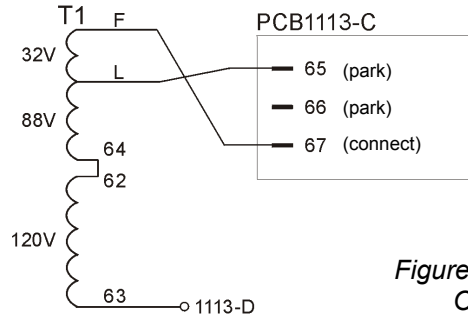

Figure 12. LP 5/6/8/10-11U:
1. The factory setting of the output tap (208Vac) has to be changed to 240Vac. Please refer to fig. 12 and 12a. Proceed as follows: